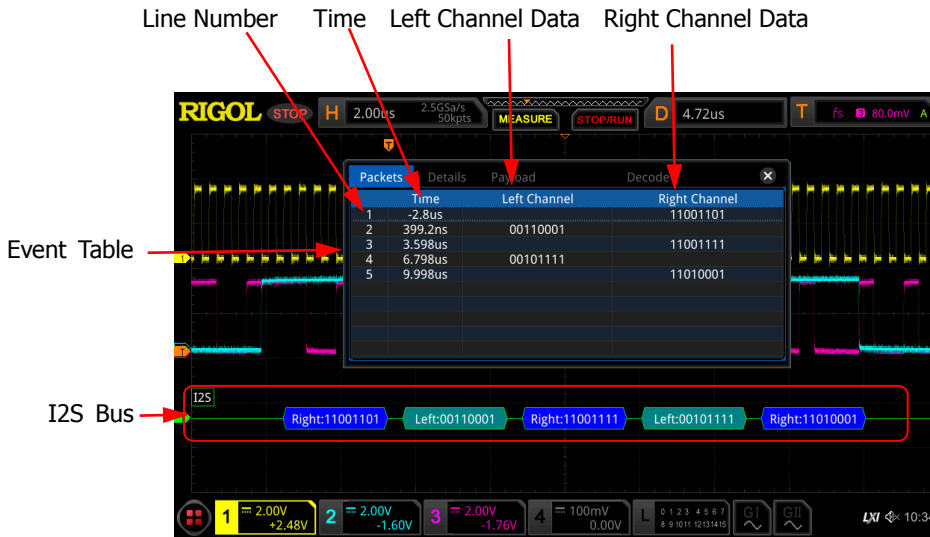

Figure 12-14 I2S Decoding Event Table
- Open or close the event table: Press **Event Table** continuously to enable or disable the event table. When you enable the event table, the following figure is displayed, as shown in Figure 12-14. You can also enable the touch screen to tap the icon  at the upper-right corner of the table to close the event table.